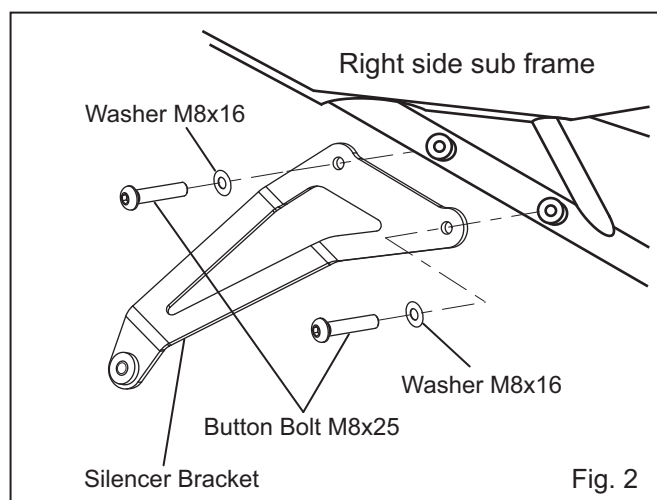

Fig. 2
- 4) Using 2 of each Button bolt M8x25 and Washer M8x16, mount Silencer Bracket on right side sub frame. (See Fig. 2) Then tighten and torque bolts.